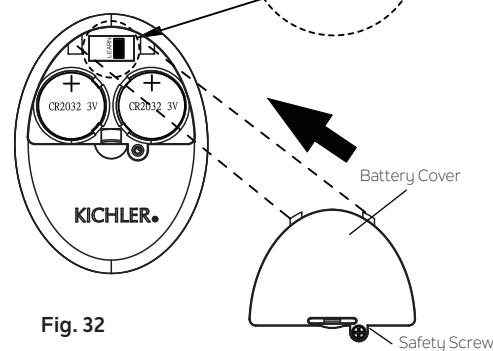

Fig. 32
Step 2. Restore power to the ceiling fan branch circuit at the circuit breaker or fuse box. Within 30 seconds of restoring power, press and hold the LEARN button on the back of the transmitter (**Fig. 32**) for 3 seconds. The light on the fan (if installed) will flash twice and the fan will turn on at a low speed. This confirms that the pairing process is complete. The transmitter will now be paired to your fan and ready for use.